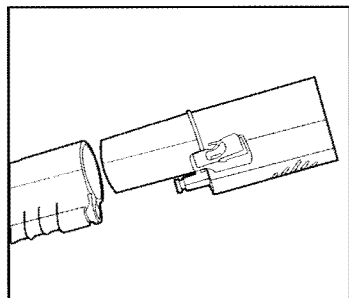

Fig. 5
The accessories can be connected directly to the handle of the work hose (e) or to the extension hoses, when so required. To secure the accessories to each other, simply fit the male end of one into the female end of the other until the click of the button. Fig 5.
- press the button to remove the accessories. Fig. 5.